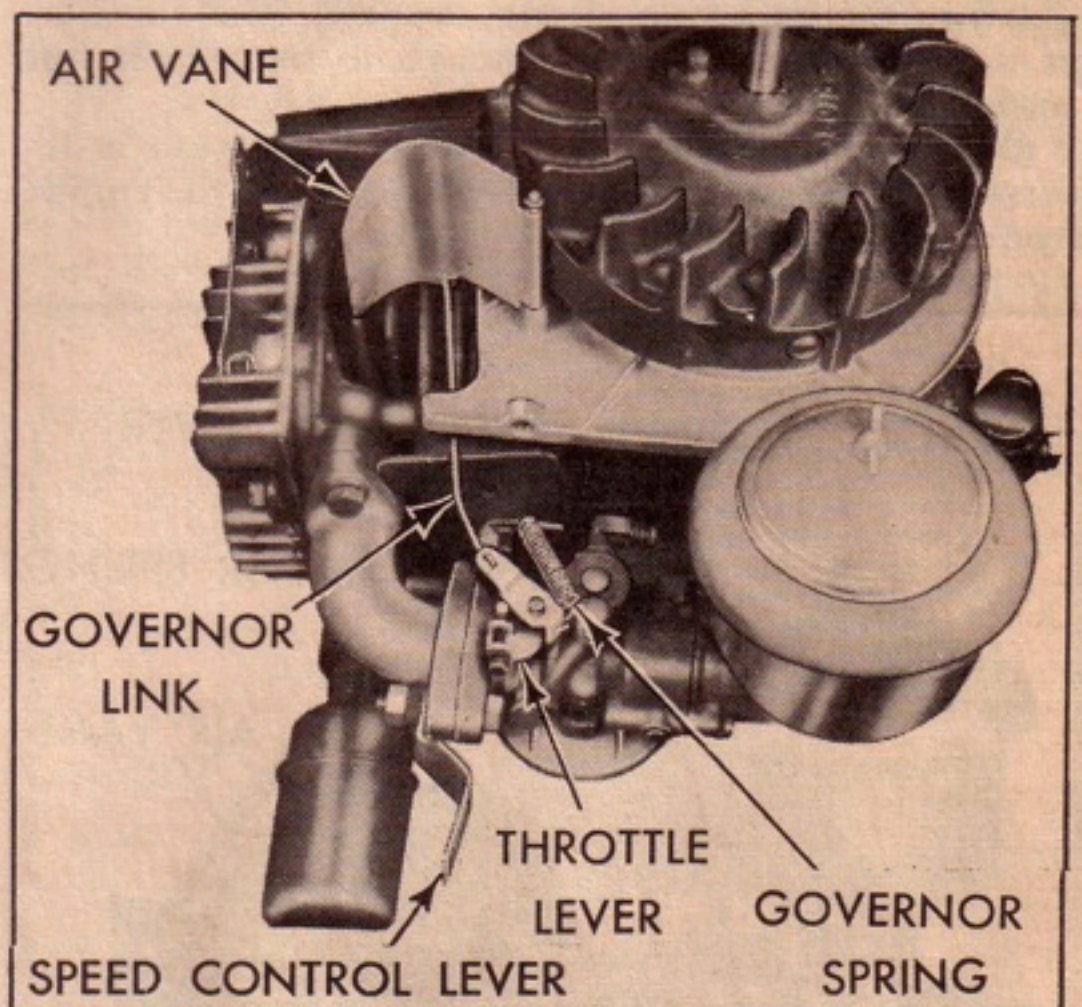
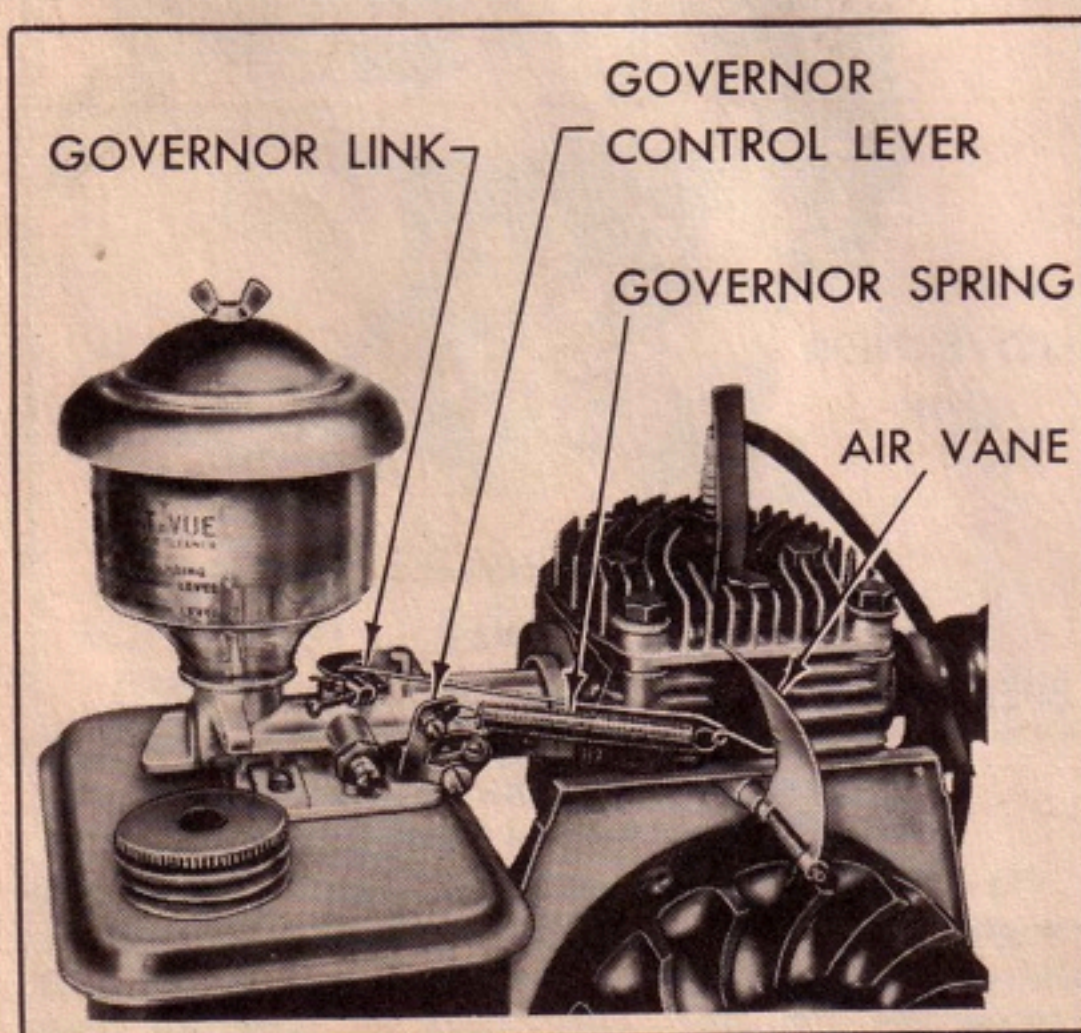

Figure B-23. Typical Air Vane Governor Linkage on Vertical Shaft Engine
Figure B-24. Typical Air Vane Governor Linkage on Horizontal Shaft Engine
(See Figs. B-23 and B-24.)
(4) The governor spring is the balancing force of the governor. The engine can be set to run at any desired speed within the operating range by adjusting the initial tension of the governor spring. Figure B-23 shows a typical spring used on a vertical shaft-type engine, and figure B-24 shows a typical hookup used on a horizontal shaft engine equipped with a suction-type carburetor.